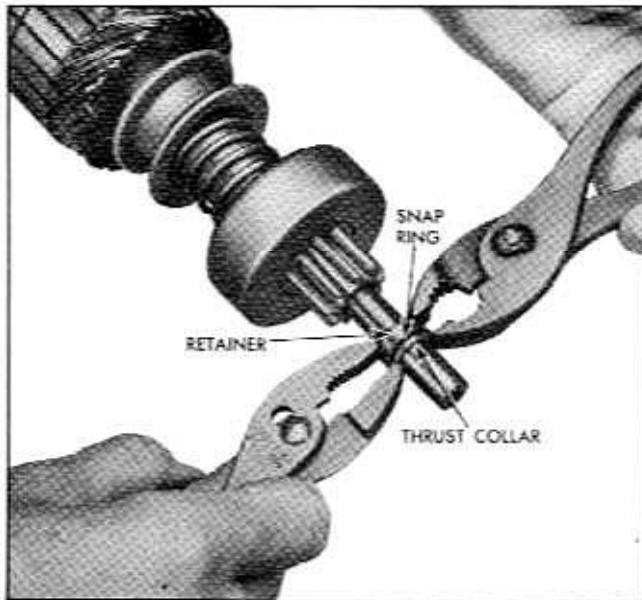

Fig. 12-34 Forcing Retainer Over Snap Ring
f. Place armature flat on work bench, and position retainer and thrust collar next to snap ring. Then, using two pairs of pliers at same time (one pair on either side of shaft), grip retainer and thrust collar and squeeze until retainer is forced over snap ring (Fig. 12-34).